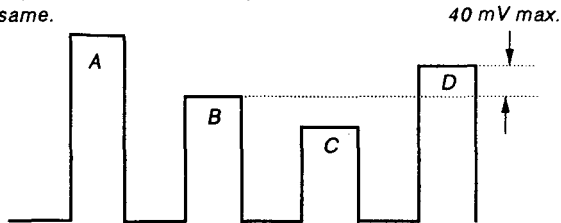

Fig. 17
- 4) Adjust **CHROMA PAL NOR** so that the tops of the waveform line up. (Fig. 17)